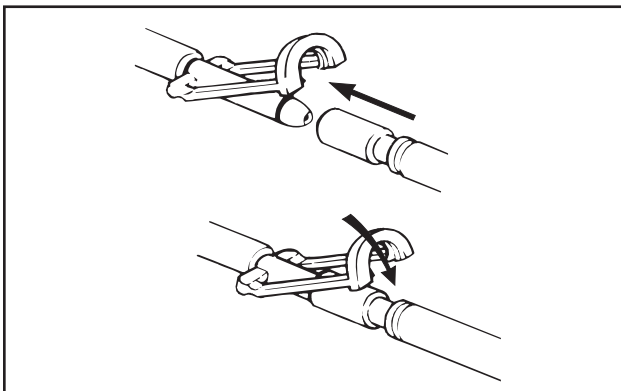

Figure 6—Clik-Tite Connector
2. Attach the two Clik-Tite connectors (fig. 6 below) on the connector hose to the blanket. Insert the male fitting into the female. When fittings are fully seated, snap the locking ring into place to assure a positive lock.